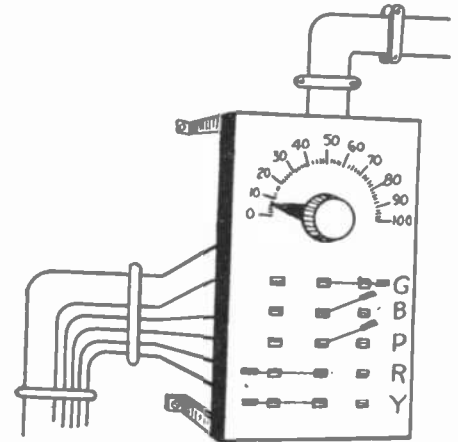

FIG. 1
A metal plate of zinc or copper as shown in (A) of Fig. 1, a few sheets of blotting paper (B), and some white paper (C), on which the image is to be produced, are necessary.
ODDS and ends of materials picked up about the home work shop or bought for a song may be easily combined in a stand that will make an ordinary garage "trouble" lamp serve also as a good-looking lamp to light up the bridge table. The base is a box 14 x 14 x 1 1/2 inches deep, made of inch lumber (Fig. 1). Screw a half-inch pipe three feet long into a flange and attach the latter to the bottom of the box inside. Lacking a flange, one may simply bore a hole in the wood of such a size that the pipe will fit it snugly and then screw the pipe firmly into it. Weight the box well with lead, scrap iron or sand. Put the top section (Fig. 2) in place and fasten it with finishing nails. A "dome of silence" caster under each corner of the base makes the stand easy to move and saves floors.
With a hacksaw cut an up-and-down slot in the end of the shorter arm of the rod. Drill a hole horizontally through it (see Fig. 4). Cut (A) and four pieces like (B) and (C), Fig. 5, from spring brass or steel of about 24 gauge. At each end of (A) are two pieces (B) and (C) fixed to either side of (A) by rivets (a, Fig. 5). These pieces are bent as shown at (C C') in the end view, Fig. 5, to grip the handle of the trouble lamp. (A) is drilled (b, Fig. 5) and then inserted in the slot sawed for it (Fig. 4 and B, Fig. 1). A light bolt with a thumb nut holds it in place and permits the adjusting of the light to any desired vertical angle. By raising the upper section of the stand and swinging the light well forward one may quickly convert the bridge lamp into a mighty useful piano lamp.
The opening at the apex of the shade should be just large enough to admit the two-piece plug and the handle of the trouble lamp. As the wire guard is left on the lamp, one needs only to slip the cord from the wire hooks (A, Fig. 1), release the handle and slip off the shade to make the lamp ready for "trouble" service.